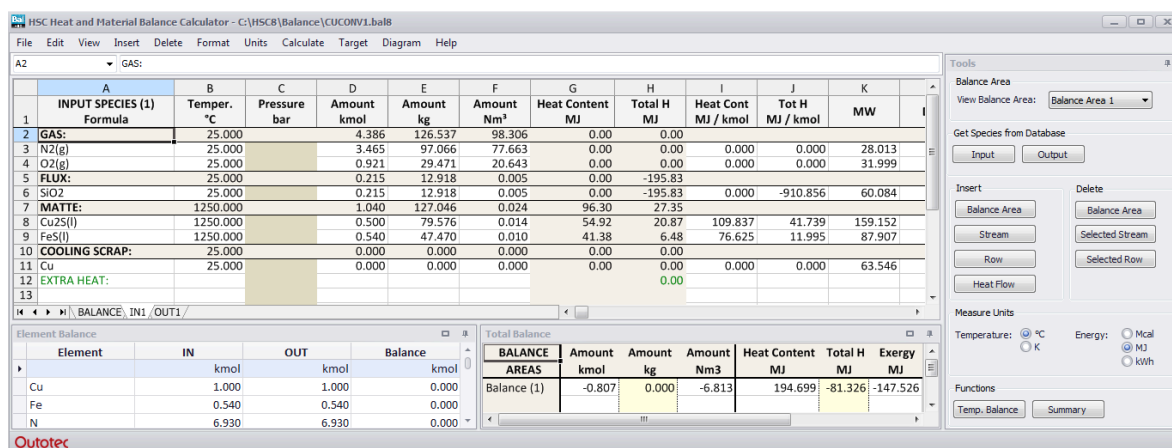
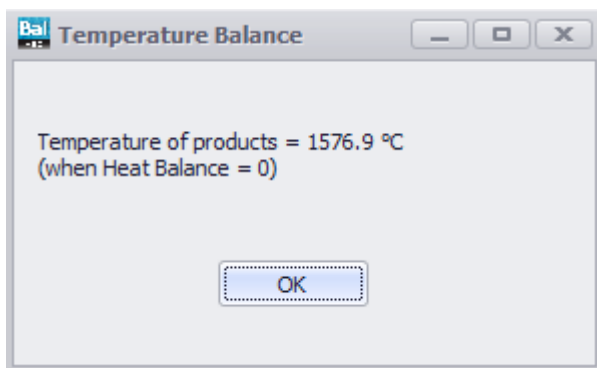

Fig. 1. Heat and Material Balance workbook with BALANCE, IN1 and OUT1 sheets.
Fig. 2. Temperature of products (adiabatic process).
3. When feeding additional energy (electricity) to the process, enter the amount into the **Total** column in the last empty row of the IN1 sheet. You can also type for example "Extra Heat" in the first column of this row, see **Fig. 1**. The Database module will convert the color of all "inert" text in the first column to green, unless this text is identified in the database as a substance. Note that:
7. The element balance can be checked from **Element Balance**, see **Fig. 1**.
8. By selecting **Temperature Balance** from the **Calculate** menu or from the **Temp. Balance** button, it is possible to see the estimated temperature of the products when the heat balance = 0, see **Fig. 1** and **Fig. 2**.